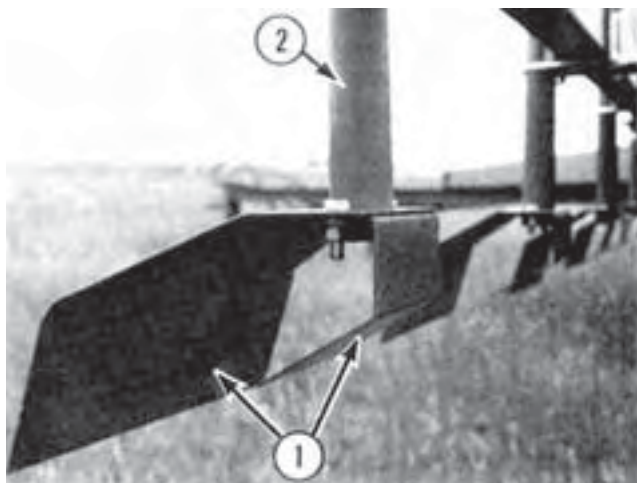

FIGURE 7. Spreaders: (1) Deflector Plates, (2) Tube.
**Spreading Uniformity:** Spreading uniformity of the Flexi-coil Granular Applicator Attachment was good. The pneumatically conveyed granules were spread over the soil by a spreader consisting of two deflection plates (FIGURE 7). The spreaders could be spaced at various intervals ranging from 15.8 to 24.0 in (400 to 610 mm). The spacing depended on the width of the tillage implement. The manufacturer recommended a spreader height equal to the spreader spacing. The system was tested in the laboratory at 20.5, 22 and 24 in (521, 559 and 610 mm) spreader spacings.